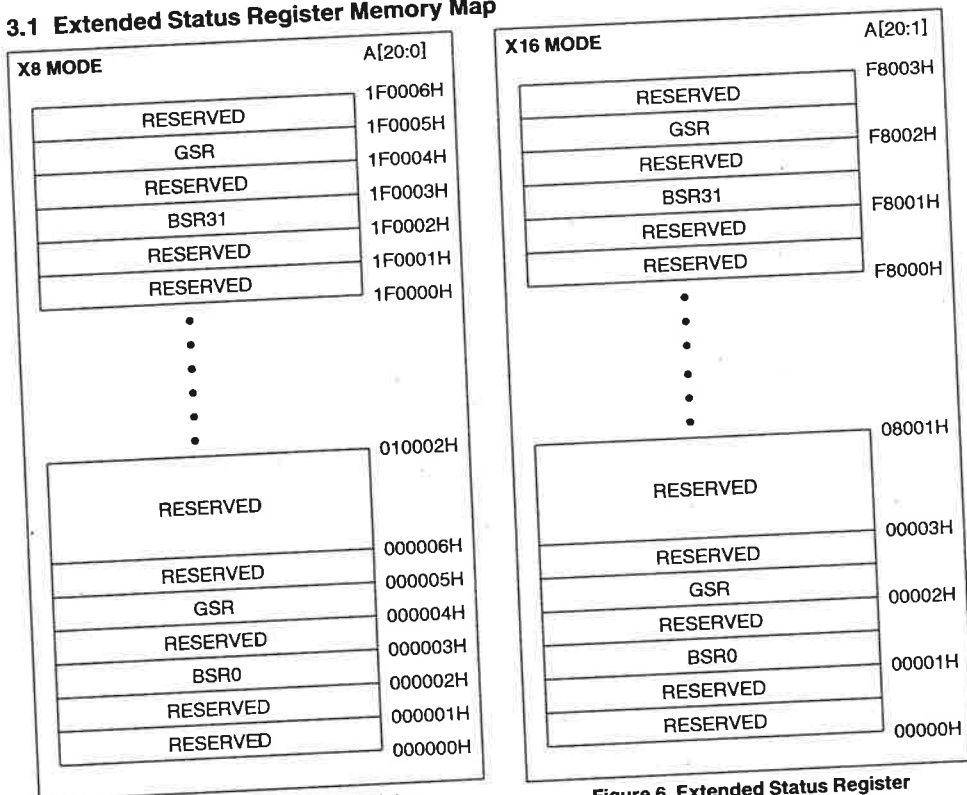

Figure 5. Extended Status Register Memory Map (Byte-Wide Mode)
The GSR and BSR memory maps for byte-wide and word-wide modes are shown in Figures 5 and 6.
1. RA can be the GSR address or any BSR address. See Figures 5 and 6 for Extended Status Register Memory Maps.